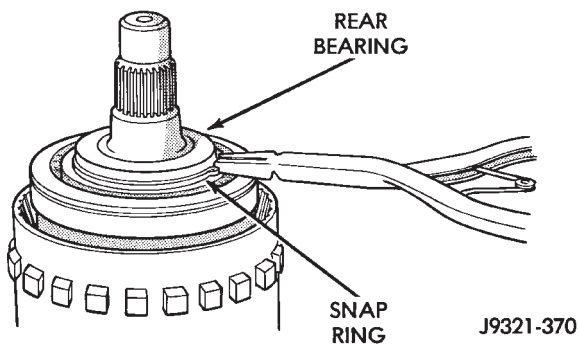

Fig. 224 Rear Bearing And Snap Ring Installation
(7) Install rear bearing and snap ring on output shaft (Fig. 224). Be sure locating ring groove in bearing is toward rear.